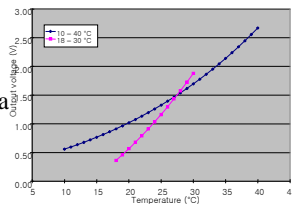

Fig. 2 Variation in ADC reading
- Non-linearity of temperature – voltage reading: Difficult to fit a voltage reading to the temperature with a single formula (Fig. 2).